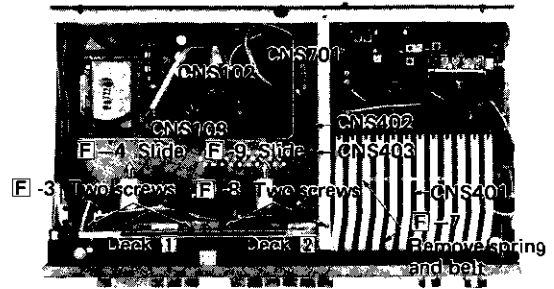
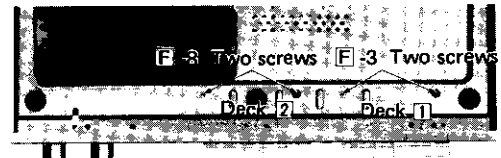

Figure 5-1
Figure 5-2
2. Pull out three sockets (CNS102, CNS402 and CNS701) shown in Fig. 5-1.
3. From the mechanism block, remove two screws from its upper part (shown in Fig. 5-1) and two screws from its lower part (shown in Fig. 5-2).
4. Slide the mechanism block in the arrow direction shown in Fig. 5-1, and take it out.
6. Pull out three sockets (CNS103, CNS401 and CNS403). See Fig. 5-1.
7. Remove the record/playback switch interlocking spring and tape counter belt. See Fig. 5-1.
8. From the mechanism block, remove two screws from its upper part (shown in Fig. 5-1) and two screws from its lower part (shown in Fig. 5-2).
9. Slide the mechanism block in the arrow direction shown in Fig. 5-1, and take it out.